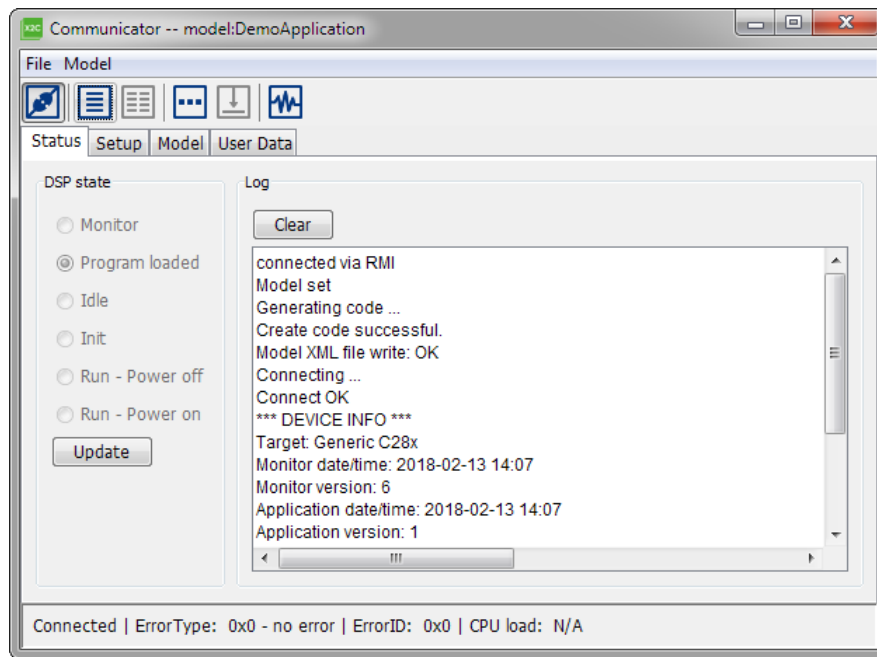

Figure 8: *Communicator* status
- In the **Status** tab there are two main areas as seen in Figure 8. In *DSP state* the current status of the connected target is shown. The following states are possible: